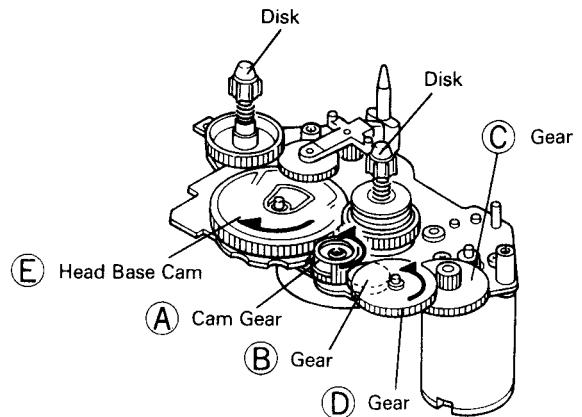

Fig. 6-12
1. Re-assemble the disk base unit in order of numbers (Ⓐ to ⓕ) shown in Fig. 6-12.
- b) Engage the gears ⓒ, ⓓ and ⓔ with each other. (Fig. 6-12)